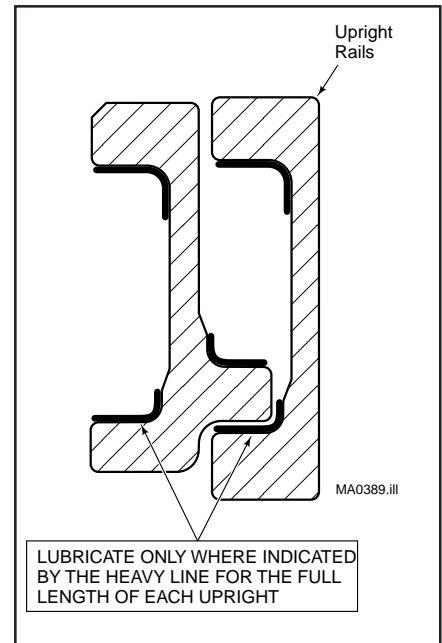

Figure 38. Rail Lubrication
1. Lubricate the outer rails with chassis lube or Kendall SR-12X. See Figure 38.